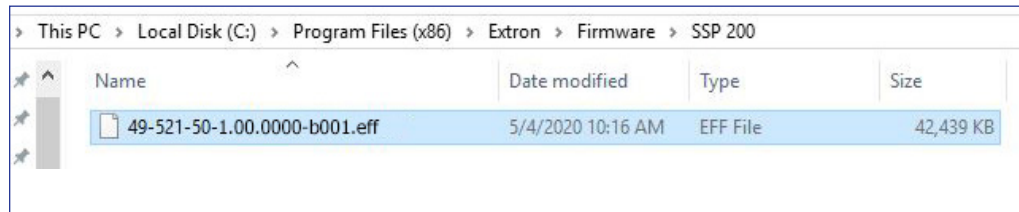

Figure 70. Selecting the Firmware File
4. Browse to the location of the firmware and select the file (see figure 70).